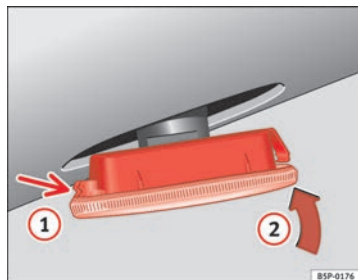

Fig. 236 Side indicator
- First place the indicator in the opening in the bodywork, fixing the tabs ⇒ fig. 236, arrow ①.
- Insert the bulb as shown by the arrow ② ⇒ fig. 236. ■